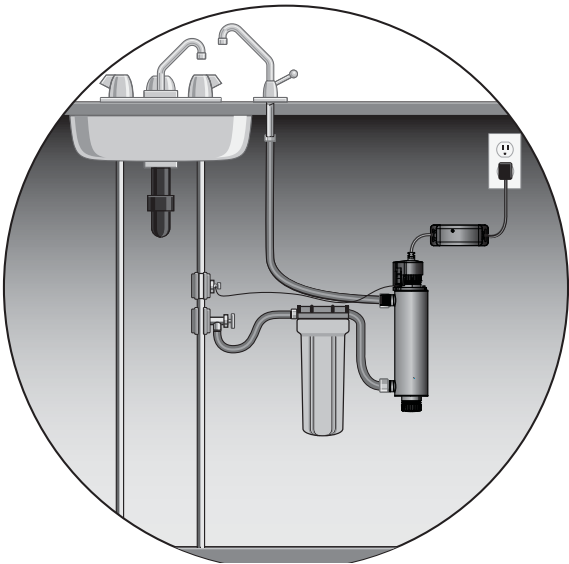

Figure 2 Disinfection System
1. Figure 2 shows the installation of a typical point of use (POU) system and the related components that may be used for the installation. The use of a by-pass assembly is recommended in case the system requires off-line maintenance. In this case, note the system requires a supplementary disinfection for the distribution system if any water is used during by-pass condition. In addition, during by-pass, the water will NOT be disinfected an a “DO NOT CONSUME THE WATER” tag should be physically installed on the by-pass assembly until such time as the system is sanitized and returned to service. For more information, refer to Section 3.2. If the water is to be consumed while the system is off-line, the water must be boiled for two minutes prior to consumption.